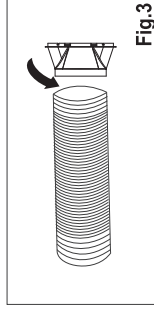

Fig.3
3. Screw it to the hose inlet (Fig.3).